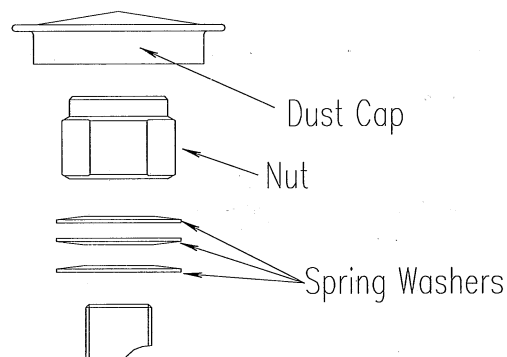

**FIG 9.LH Pump Adjustment**
- e) Place the left motion control lever to the neutral position. Loosen the lock nut on the lever. Rotate the turnbuckle in the middle of the lever to adjust the length of left hydrostatic transaxle in proper way. Until the wheels turn back, remove the motion control lever. Pull the lever slightly when it's in the neutral position. The motion control lever will rebound to the neutral position by the reaction power of spring. Then the wheels will stop to run or turn back slightly. After doing this, tighten the lock nut. See FIG 9.